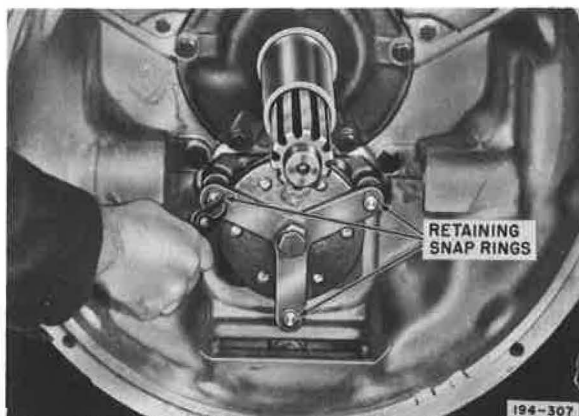
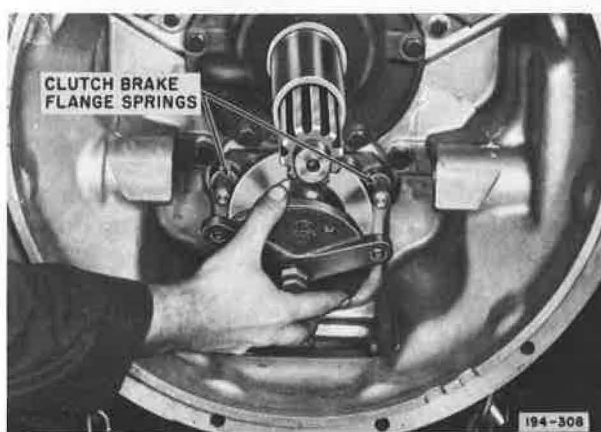

Figure 5-133. Removing Clutch Brake Pressure Plate Retaining Snap Rings
Figure 5-134. Removing Clutch Brake Pressure Plate
2. Remove clutch brake pressure plate snap rings as shown in Figure 5-133, then remove pressure plate and springs. See Figure 5-134.